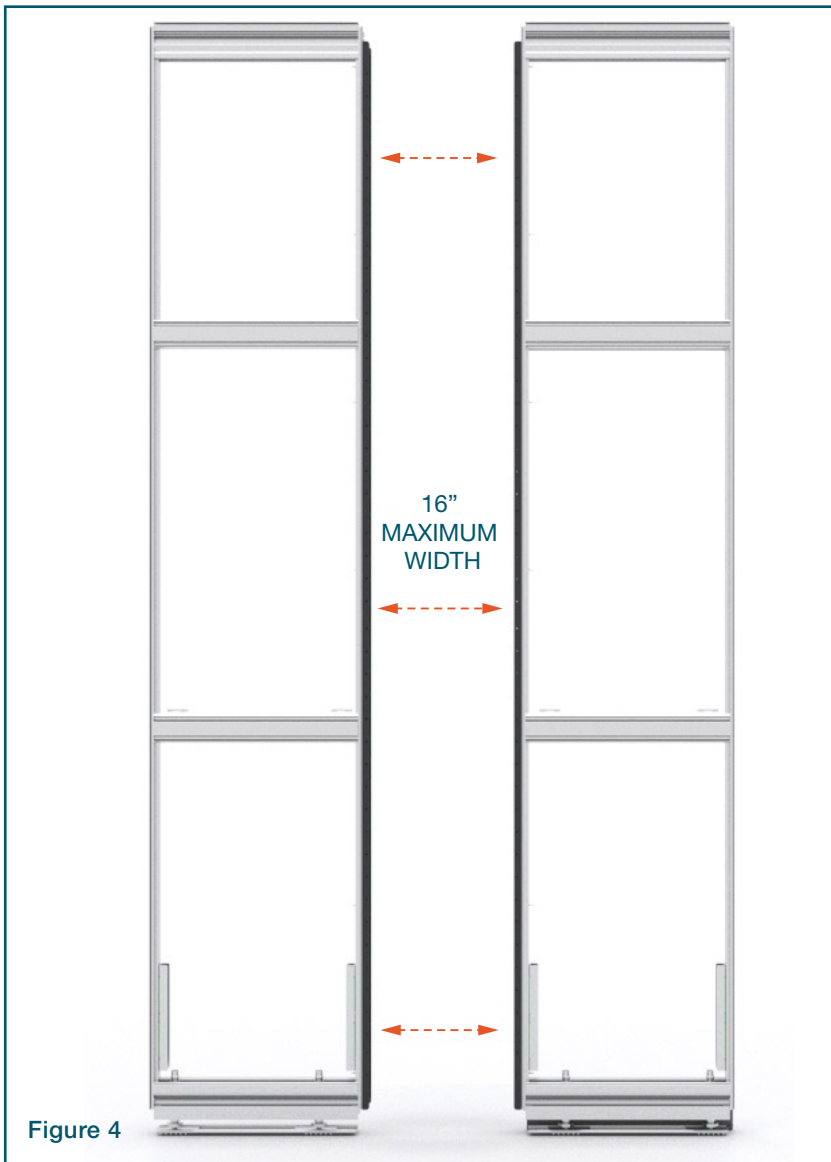

Figure 4
- A. **Position** the **frames** in the elevation to achieve the pre-determined **width** of the **chase**, or to allow the spanning plates to be secured to the vertical members of the chase (Figure 4). **Both frames** are **leveled** once they are stood up in the elevation, the leveling is done to **site conditions** (floor slab) to **ensure** that the **frames align**.